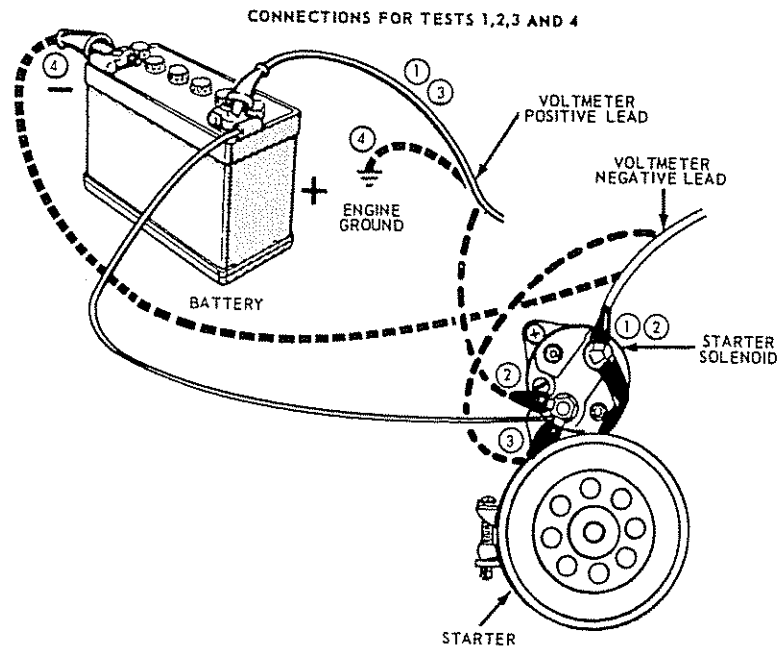

Fig. 3 — Starter Cranking Circuit Test—Solenoid Starter
These tests will determine whether or not there is excessive resistance in the cranking circuit. Make each test connection as shown in Figure 3. While
1. 0.5 volt with the voltmeter negative lead connected to the starter terminal and the positive lead connected to the battery positive terminal (Figure 3, connection 1).
2. 0.3 volt with the voltmeter negative lead connected to the starter terminal and the positive lead connected to the battery terminal of the starter solenoid (Figure 3, connection 2).
3. 0.2 volt with the voltmeter negative lead connected to the battery terminal of the starter solenoid and the positive lead connected to the positive terminal of the battery (Figure 3, connection 3).
4. 0.1 volt with the voltmeter negative lead connected to the negative terminal of the battery and the positive lead connected to the engine ground (Figure 3, connection 4).